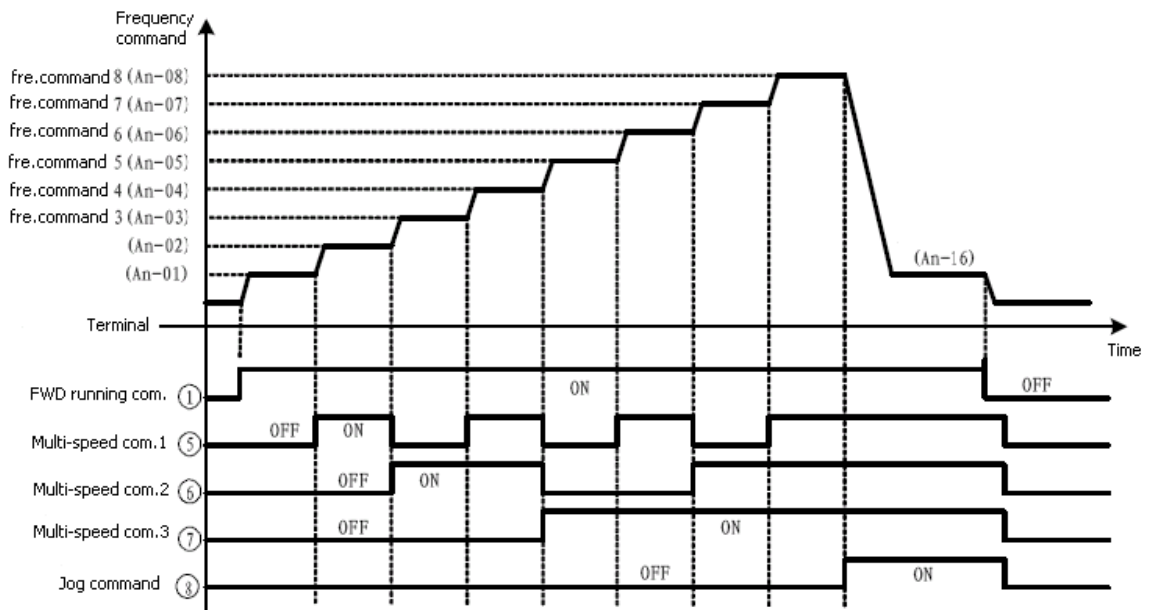

Fig.4-32 16 Step Speed Running Control
*2 When Sn-29=0,secondary frequency (as Fig.4-32's second frequency setting) is analog input by terminal AUX.,if Sn-29≠0,secondary frequency is set by An-02.